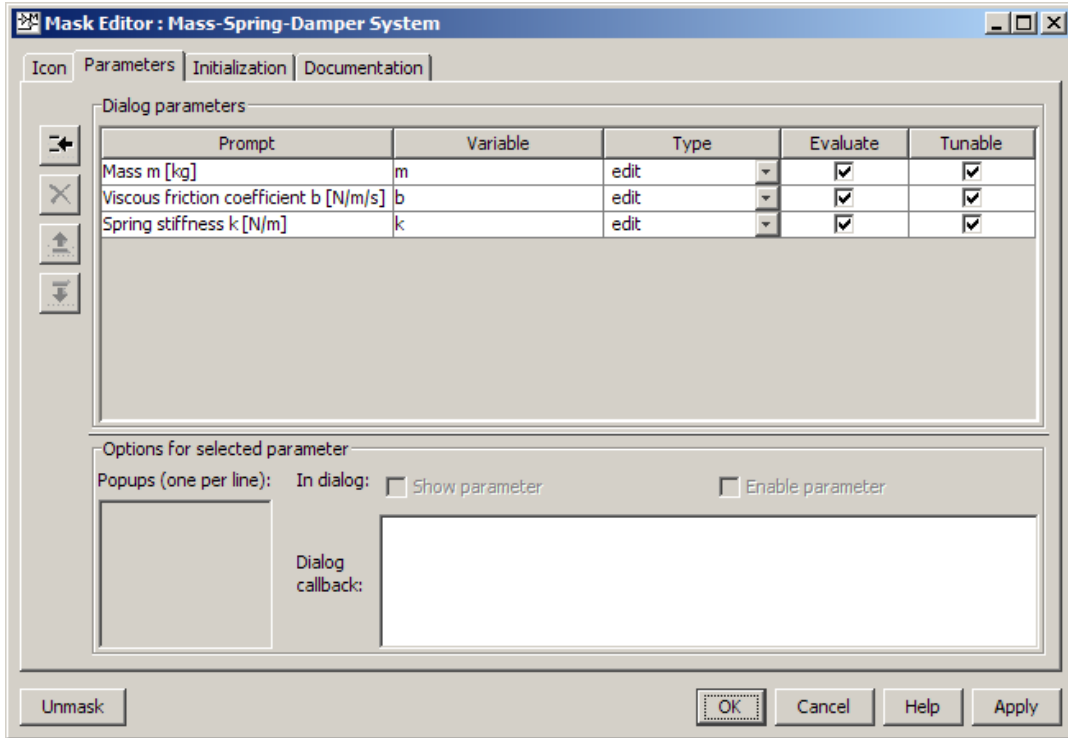

Figure 12 Parameters tab of the Mask Editor
- Parameters tab: see **Fig. 12**.